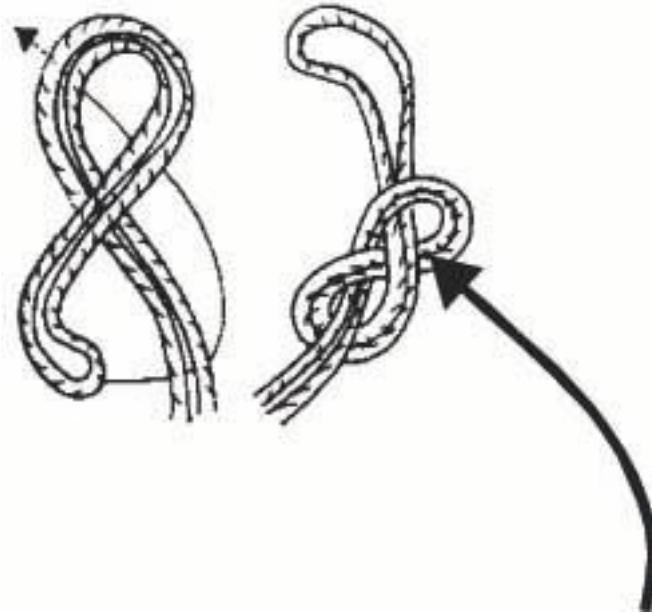

Figure 2-23. Figure "8" Loop
(1) Figure "8" Loop. This knot forms a single bight and is used as an anchor in the middle or end of the rope. It retains 80% of its tensile strength. 8's are the preferred knots (Figure 2-23).